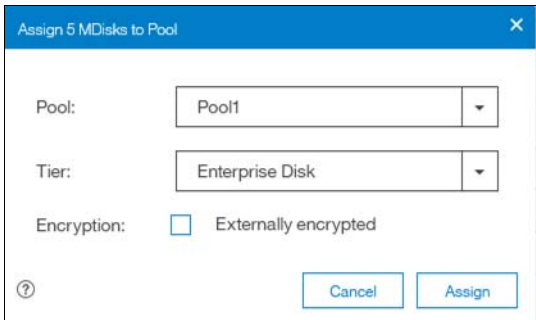

Figure 11-7 Selecting the storage pool to assign the MDisks to the pool
11. Add the MDisks to the pool. Select the pool to which the MDisks are going to be assigned and click **Assign**, as shown in Figure 11-7. After the task completes, click **Close**.